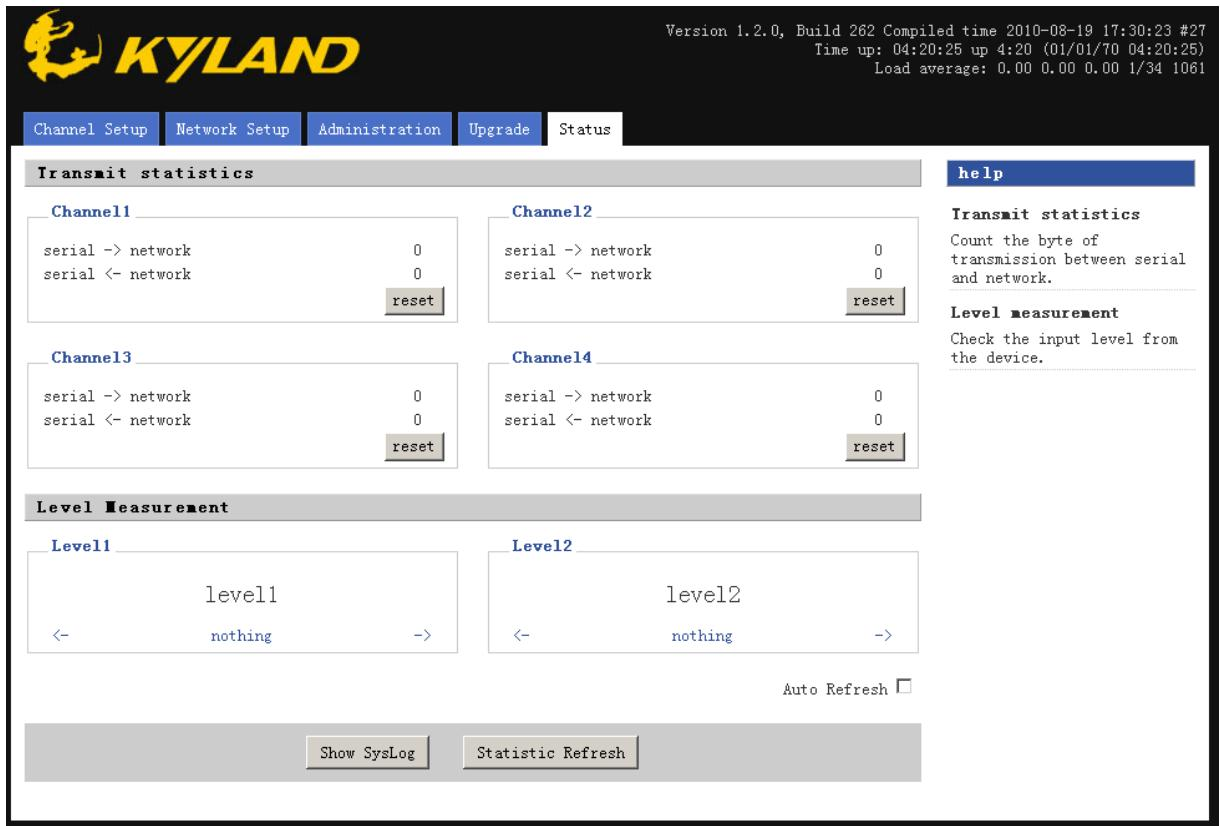

Figure 2-8 Statistics of Transmitting bytes
- Enter WEB main page of serial server; click “Status” in the main menu to enter the transmit statistics page, shown in Figure 2-8